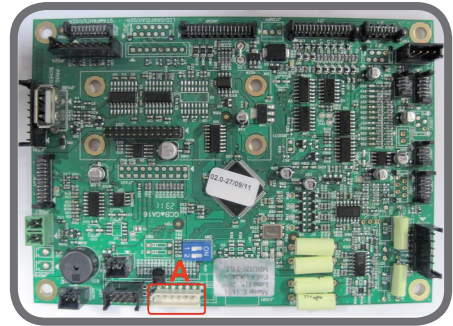
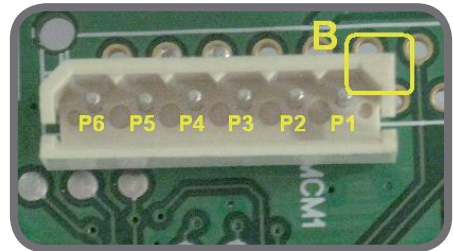
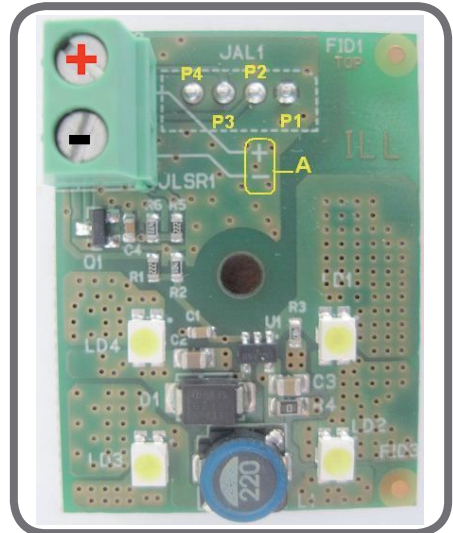

Fig.17
Fig.18
Fig.19
- The correct wiring of the power supply cable between the ILL board (Fig.19) and the CPU board (A, Fig.17);
- The correct voltage on the connector pins (Fig.18) on the CPU board:
- The correct voltage on the connector pins (Fig.19) on the ILL board:
Caution: Pin 1 is the one near to corner B in figure 18.
Check the correct polarity of the two Laser sensor power supply wires, see figure 19 (red cable +polarity, black cable -polarity).
- The correct wiring of the Laser cable on the ILL board, that is the red wire must be connected to the positive pole (+) and the black wire to the negative pole (-) see A, Fig.19;
- The correct voltage on the positive pole, approx. +5V DC, whereas on the negative pole 0V DC when on, whereas if off or disabled the voltage on the positive pole must be approx. +5V DC and approx. 4.5 V DC on the negative pole. To check these voltages use pin P1 on ILL board as the earth (Fig.19);
- The correct voltage on the connector pins (Fig.18) present on the CPU board and on the ILL board (Fig.19) as indicated in the previous paragraph; To carry out the previous voltage checks, the laser device can be enabled using the icon
Check the correct polarity of the two Laser sensor power supply wires, see figure 19 (red